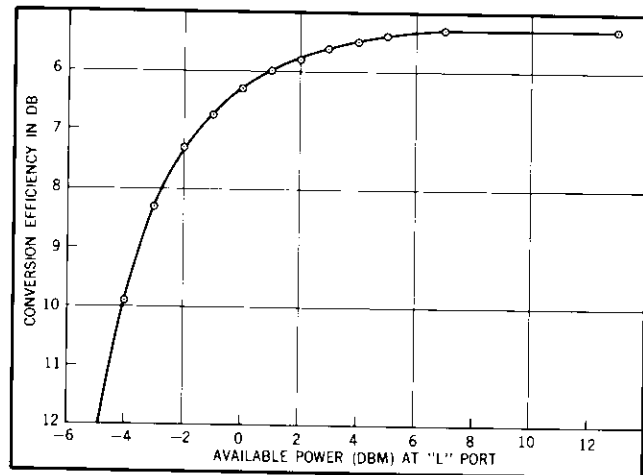

Figure 3. Conversion Efficiency
e. Conversion efficiency is the ratio of power in one output sideband to the power available at R. Figure 3 represents the conversion efficiency as a function of the available power at L, of a typical Model 10534A, B Mixer used as a mixer (Paragraph 14), or phase detector (Paragraph 15). Input signals at L and R are 1MHz, with the signal level at R maintained at 10 mv. Note that the conversion efficiency decreases sharply as power available at L is reduced below 0 dBm.